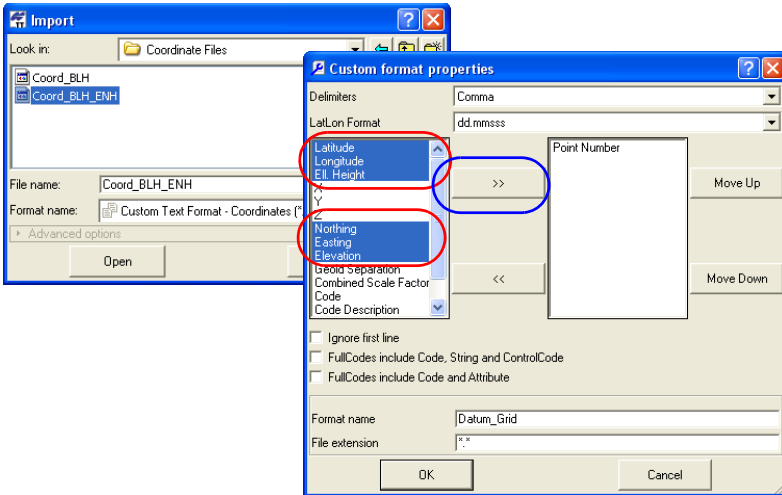

Figure 3-8. Create Custom Text Coordinate Format
4. On the **Custom format properties** dialog window select the delimiter that separates data in a line and the coordinate system used to create the data (Figure 3-8 on page 3-12).
6. Select the rule(s) to use for displaying data (Figure 3-8 on page 3-12):
The coordinate custom text format allows one to insert different types of coordinates (Latitude/Longitude/Height or/and Northing/Easting/Ortho Height or/and XYZ) into this format (Figure 3-8 on page 3-12). If the user selects several coordinate types, Topcon Tools can create (when the user selects **Job ▶ Export**) the following coordinate file: